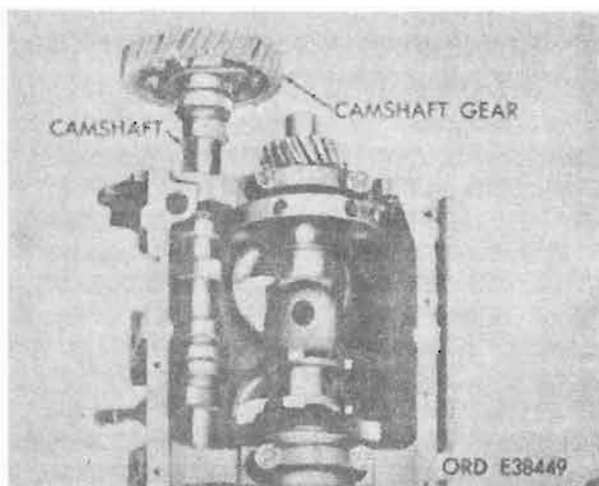

Figure 4-240. Camshaft.
(1) *Camshaft.* Be sure bearings and camshaft journals are clean. Apply a light coat of engine oil (OE-10) to camshaft journals, lobes, and bearings. Carefully install camshaft with thrust plate, woodruff key, and camshaft gear, through bearings from front of engine. Refer to paragraph 4-66 for installation of thrust plate, Woodruff key, and camshaft gear on camshaft. Use caution to avoid damaging camshaft bearings, journals, and lobes (fig. 4-240).